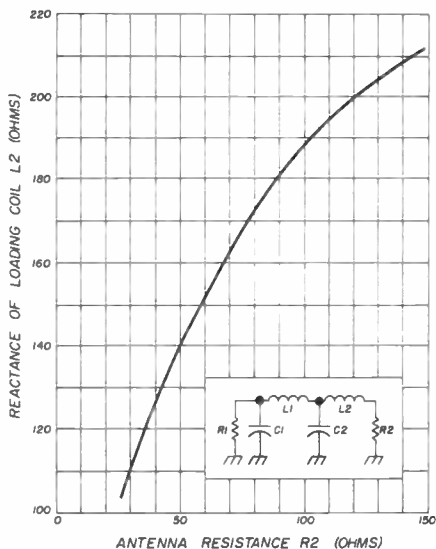

fig. 19. Reactance of the loading coil L_2 as a function of antenna resistance (R_2) for pi-L networks.
8. Find the reactance of the loading coil (L_2) from fig. 19. In this case, the reactance is about 140 ohms.